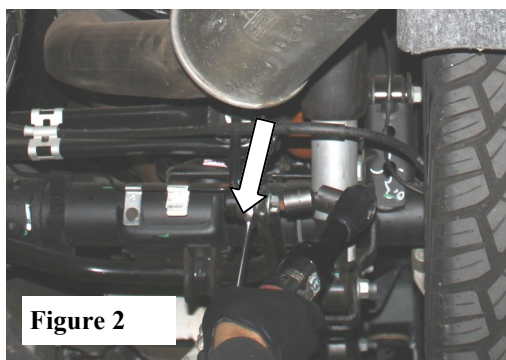

Figure 2
2. Unbolt the sway bar for more clearance and place the hardware aside for reinstallation later. (See Fig. 2)